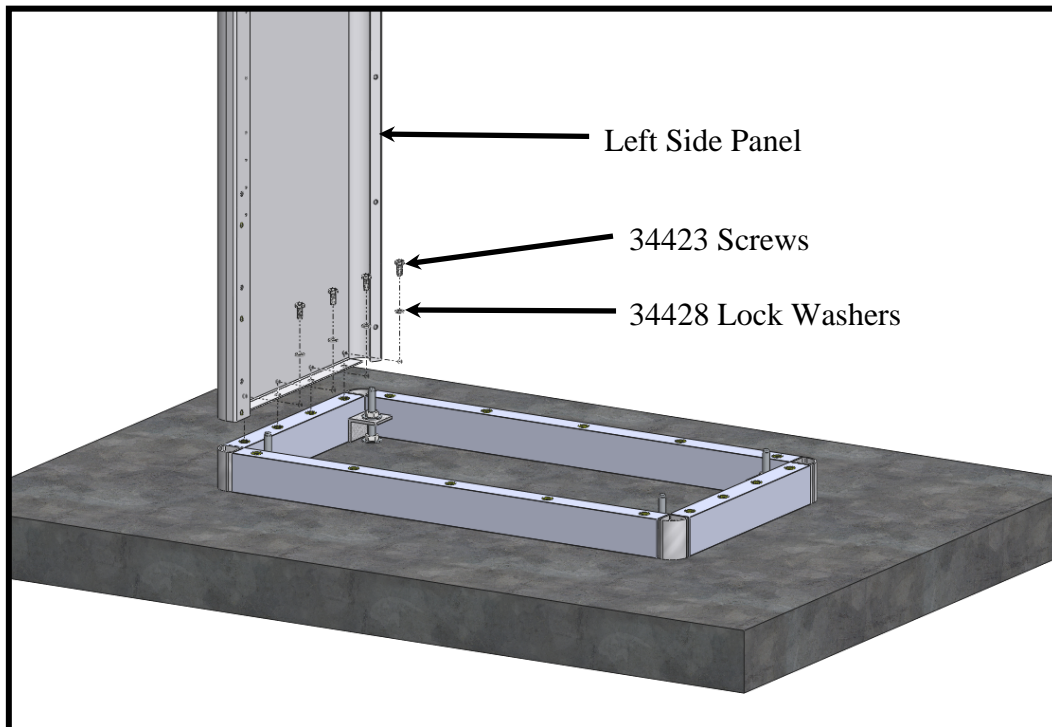

Figure 11 – Installation of left side panel
- b) Attach the left side panel to the base frame using 34423 screws and 34428 Lock Washers shown in Figure 11. **Do not tighten screw until DEPOT™ is fully assembled.**